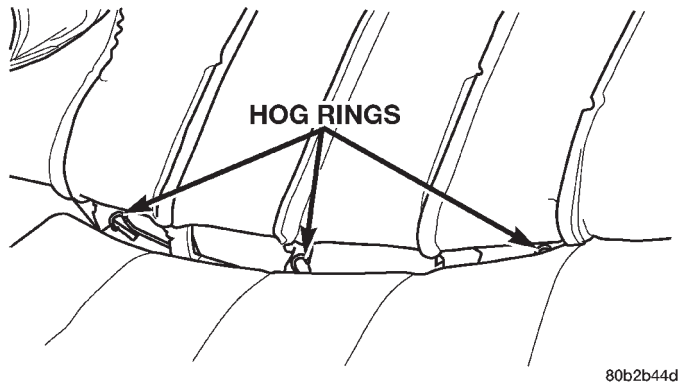

Fig. 18 Rear Seat Cushion Cover Hog Rings
- (3) Cut hog rings to free cover (Fig. 18).
- (4) Remove seat cushion cover from seat cushion.